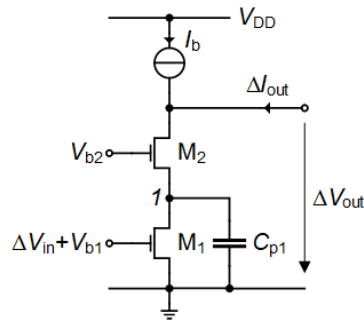

Figure 1.1: Schematic of the cascode gain stage.
Figure 1.1 shows the schematic of the basic cascode gain stage, where both transistors M_1 and M_2 are biased in saturation. The cascode gain stage is used to increase the output resistance (reduce the output conductance) and therefore increase the DC gain without spending more current (current reuse). We will show that this increase of the output resistance and gain is done without significant increase of noise.
- Draw the equivalent small-signal schematic of the cascode gain stage of Figure 1.1 assuming that the transistors M_1 and M_2 are biased in saturation.
Design the circuit of Figure 1.1 to achieve the specifications given in Table 1.1 for a generic 180nm bulk CMOS process. Find the minimum current and size the transistor to achieve these specifications. The physical parameters are given in Table 1.2, the global process parameters in Table 1.3 and finally the MOSFET parameters for this 180nm bulk CMOS process are given in Table 1.4.